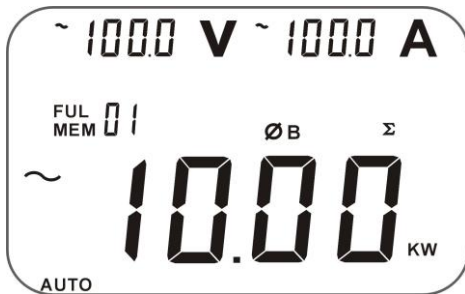

figure12
- If necessary, press Σ to get the sum of watts as figure 12.